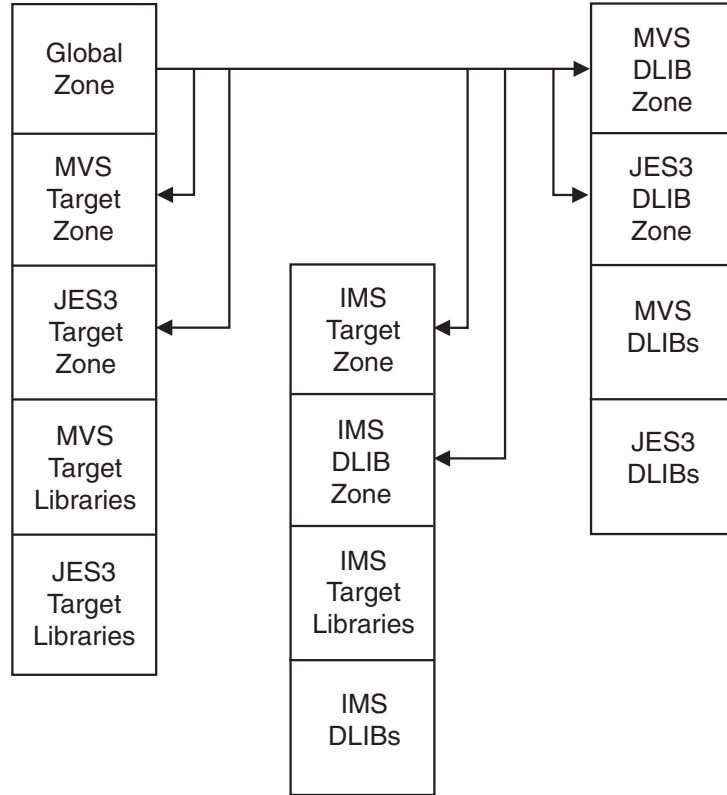

Figure 29. Using a Master CSI and a Separate CSI for Each Zone
*Example 4: Using a Master CSI and a Separate CSI for Each Zone:* In Figure 29 on page 67, one global zone is defined for the entire system in a master CSI, and separate CSIs are allocated for the JES3 and IMS subsystems on the packs where the subsystem libraries reside. Unlike Example 3, each zone is in its own separate CSI. This CSI structure provides the advantages of a common control point (as in Example 2) and keeps the SMP/E control information physically associated with the libraries it describes. This is useful when you dump packs for backup.